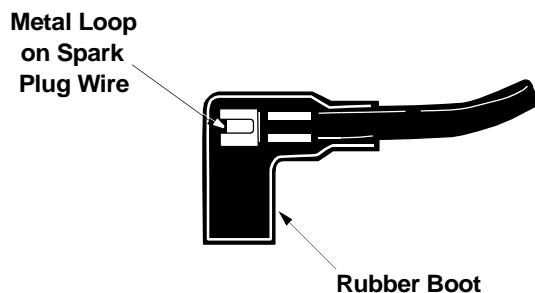

Figure 17
- Attach spark plug wire to spark plug. Make certain the metal loop on the end of the spark plug wire (inside the boot) is fastened securely over the metal tip on the spark plug. See Figure 17.